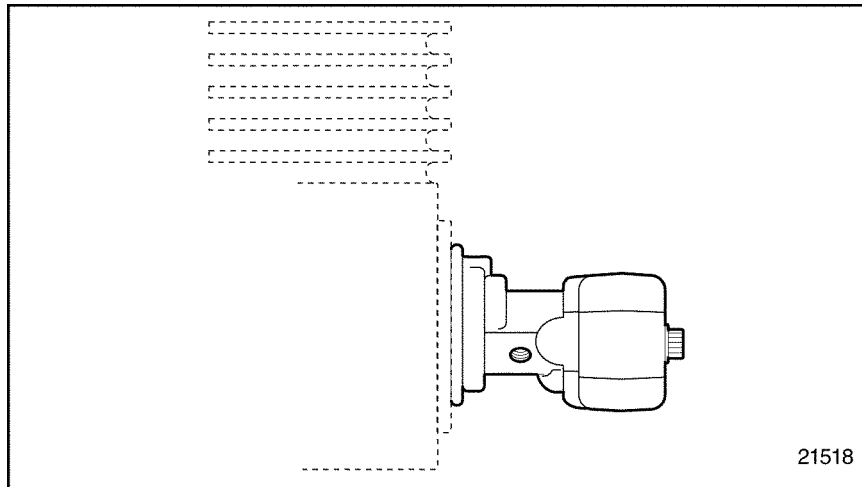

Figure 4-3 Fuel Pump Flange Drain Hole Location
1. Insert a piece of wire through the pump flange drain hole, see Figure 4-3.